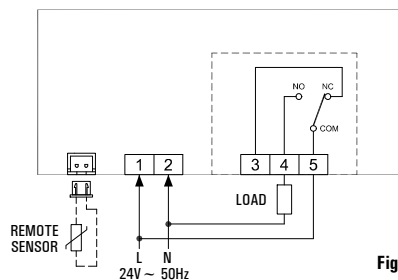

Fig. 5
- 4 Make the electrical wirings following the connection diagrams of Fig. 5 and 6.
So, it is possible to power the thermostat with a low tension SELV (24V ~) and, at the same time, control a load at a high tension (230V ~), as can be seen in Fig. 5 and 6.